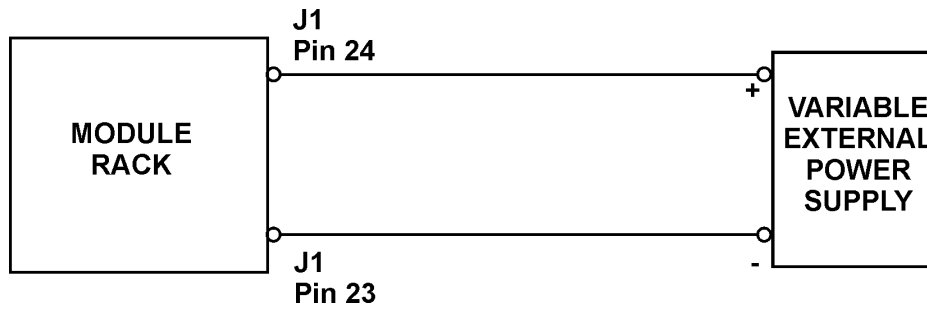

Figure 11. Checking Remote Adjust Input
- 20.9 Checking the Remote Adjust Input.** Connect a variable external power supply as shown in Figure 11. With the output voltage set to zero, check the output voltage of the module with a digital voltmeter. It should be approximately 10% below its nominal value. Next, adjust the external supply output to +5V and check the output voltage of the module. It should be approximately 10% above its nominal value. Unplug the external 5V supply and unplug the AC inputs to the rack.